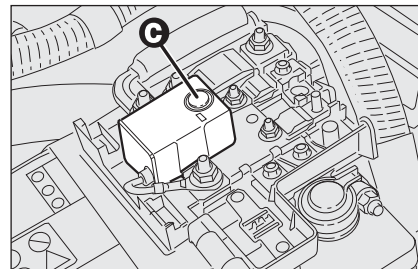

fig. 63
- press button **C-fig. 63** to reset the power supply cut-off switch.